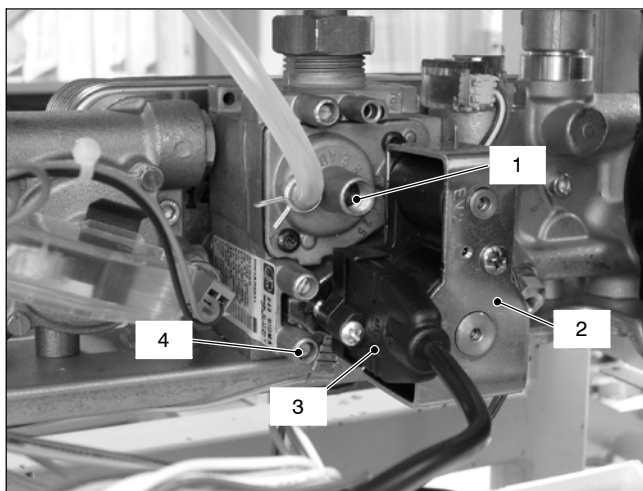

Fig. 11.2
### 11.2 Description of the parts (Fig. 11.2)
- 3 Loosen the internal screw on the Inlet Pressure Test Point 4 (Fig. 11.2) of the Gas valve and connect a pressure gauge using a suitable hose.
- 10 Disconnect the pressure gauge and close the Inlet Pressure Test Point 4 (Fig. 11.2).
To adjust the CO2 % value remove the brass plug by unscrewing it and rotate the plastic screw 1 (Fig. 11.2) (by rotating it clockwise the CO2 % increases).
- 27 After adjustment fit the protective brass plug (1, Fig. 11.2).
- 2 Disconnect the electrical connector 3 (Fig. 11.2).
- 8 Remove the brass plug and turn the plastic screw 1 (Fig. 11.2) fully clockwise until it stops. Do not overtight.